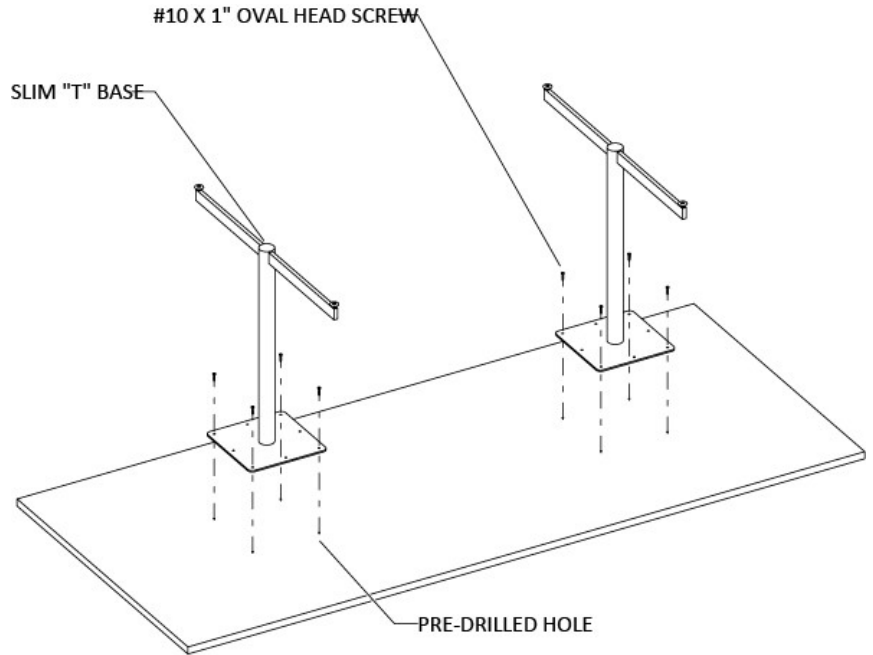

Figure 2
2. Position the slim "T" base using the pre-drilled positioning holes and attach it to table top using #10 X 1" Oval Head Screws, (Figure 2).